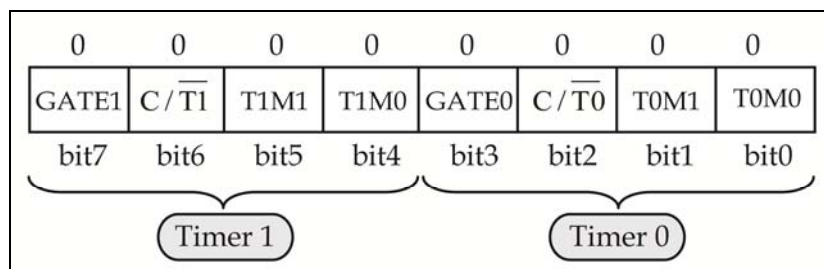

Fig. 1.8.3(a)
- Fig. 1.8.3(a) shows the bit assignment for TMOD SFR.
- As shown in fig. 1.8.3(a) the lower four bits are used to control the timer 0 and the upper four bits are used to control the timer 1.